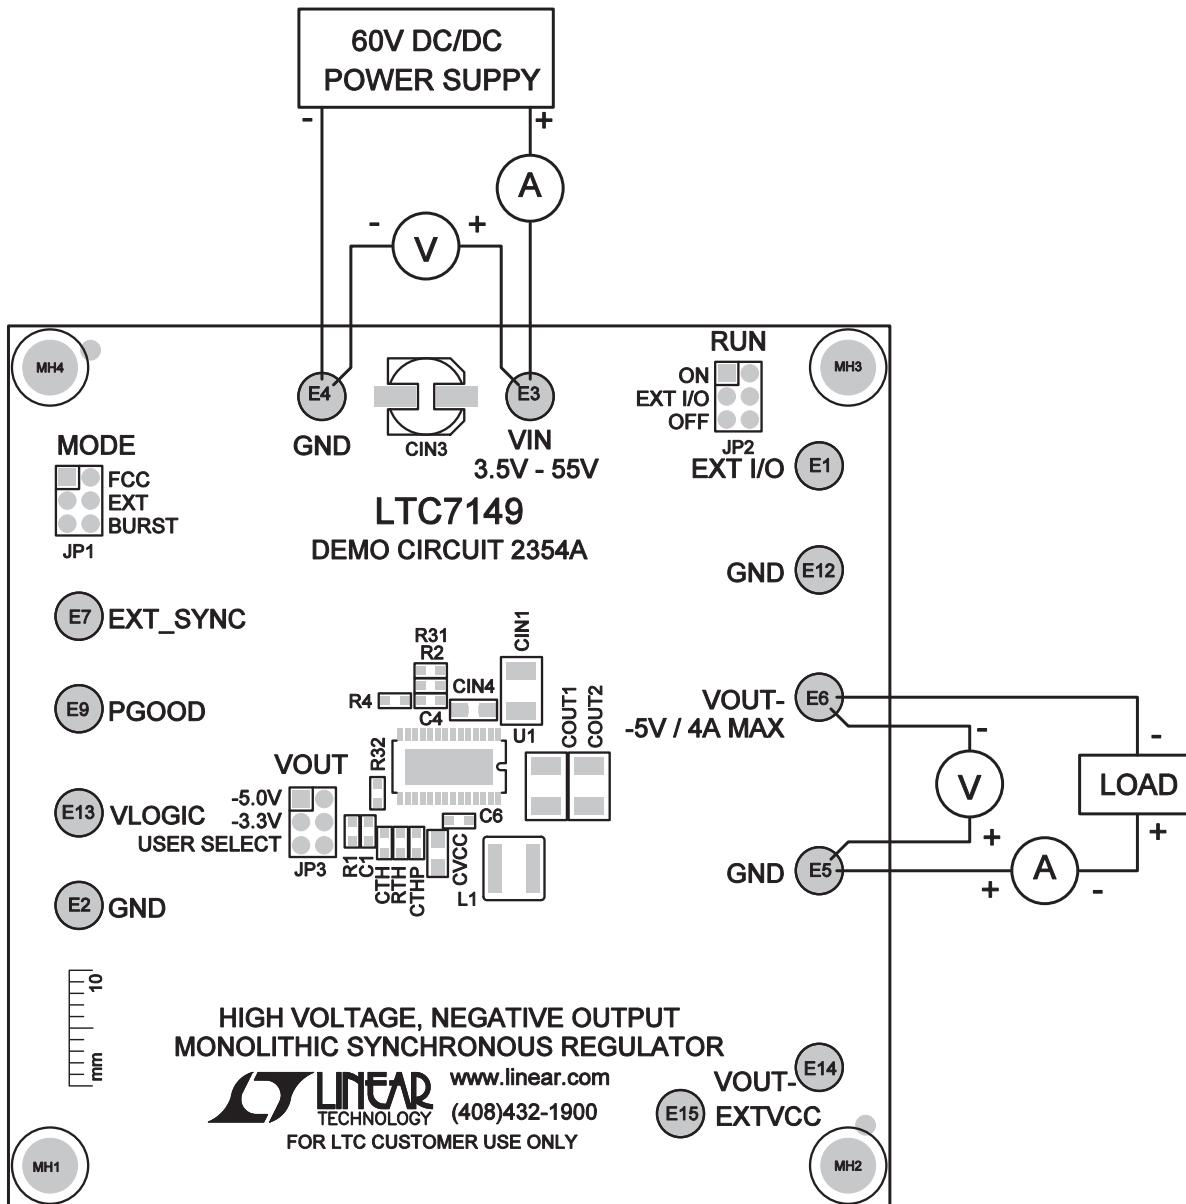

Figure 1. Proper Measurement Equipment Setup
Demonstration circuit 2354A is easy to set up to evaluate the performance of the LTC7149. For proper measurement equipment configuration, set up the circuit according to the diagram in Figure 1. Before proceeding to test, insert shunt into JP2 (RUN) into OFF position, which connects the RUN pin to ground (GND), and thus, shutdown the output. Set jumper JP1 (MODE) into FCC (Forced Counties Conduction Mode) position. Set jumper JP3 (V_{OUT}⁻) into -5.0V position.
1. With the DC2354A set up according to the proper measurement and equipment in Figure 1, apply 16V at V_{IN}. Measure V_{OUT}⁻; it should read 0V. If desired, one can measure the shutdown supply current at this point. The supply current will be approximately 14 μ A, or less, in shutdown.